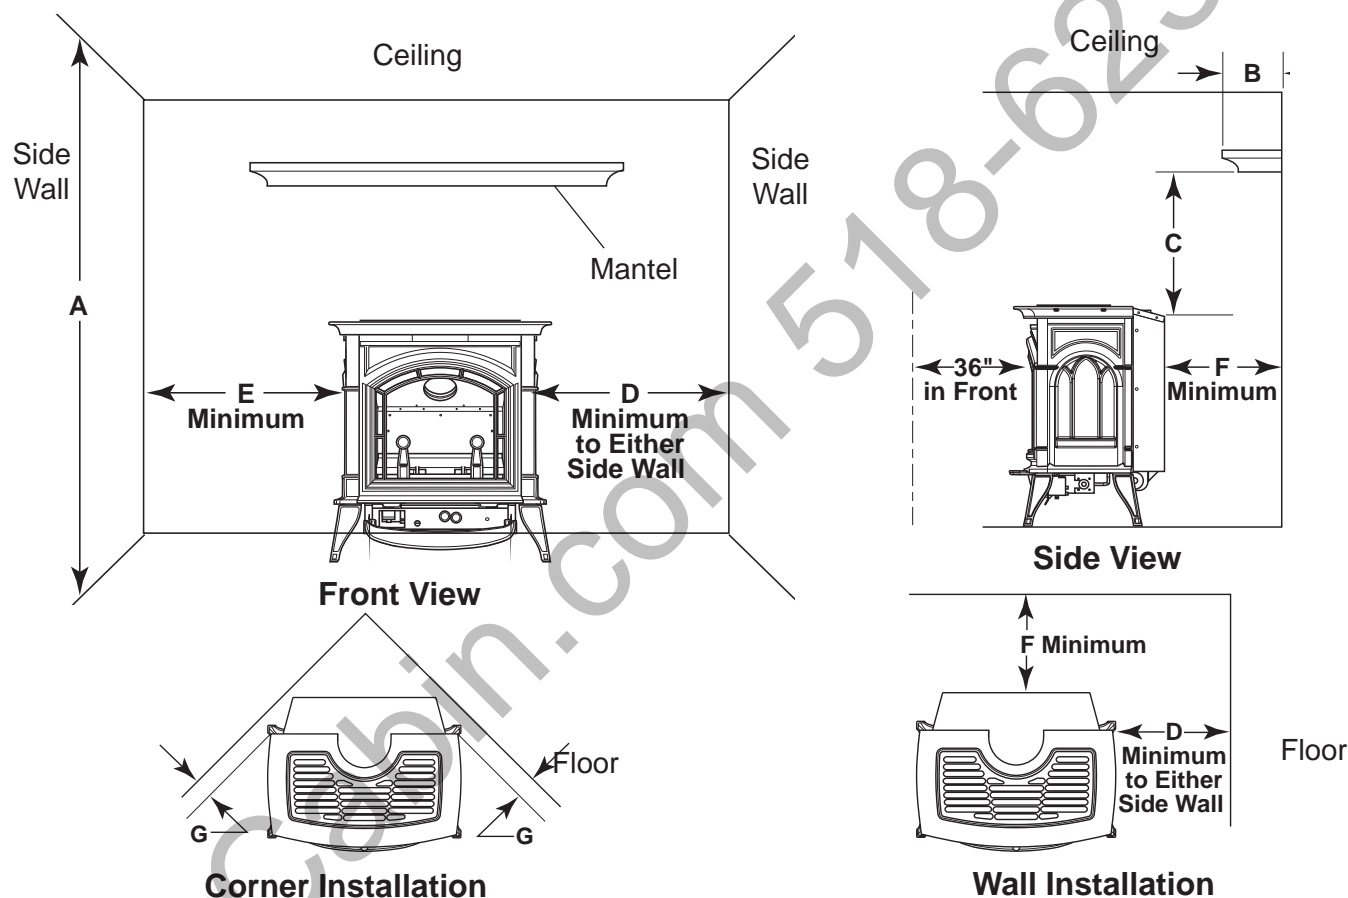

Figure 4 - Minimum Clearance to Walls and Ceiling
- Minimum clearances to combustibles, side-wall, ceiling, woodwork, and windows **must be maintained**. See Figure 4, page 9.
The dimensions shown in *Figures 4 and 5* are minimum clearances to maintain in installing this heater. Left and right clearances are determined when facing the front of the heater.